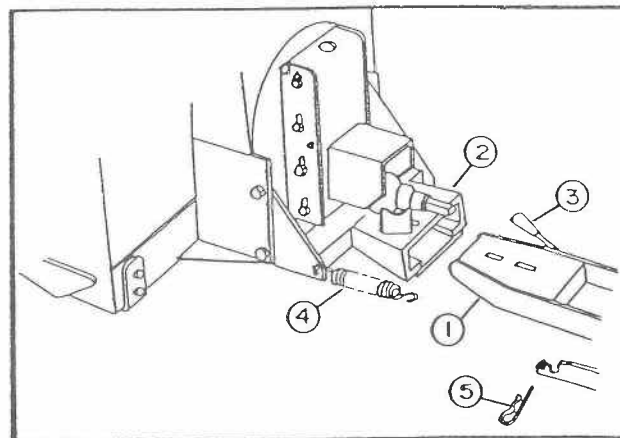

FIGURE 12
- a) Insert the male hitch section (fig. 12, item 1) into the female hitch (fig. 12, item 2) and lock in place by moving lever (fig. 12, item 3) fully forward. Secure latch with linchpin .
- i) If mounting on H4514 or H4518 models; raise snowblower to transport position. Attach one end of each spring to female hitch and hook other end to spring support bracket and secure with hair pin (fig.12, item 5).